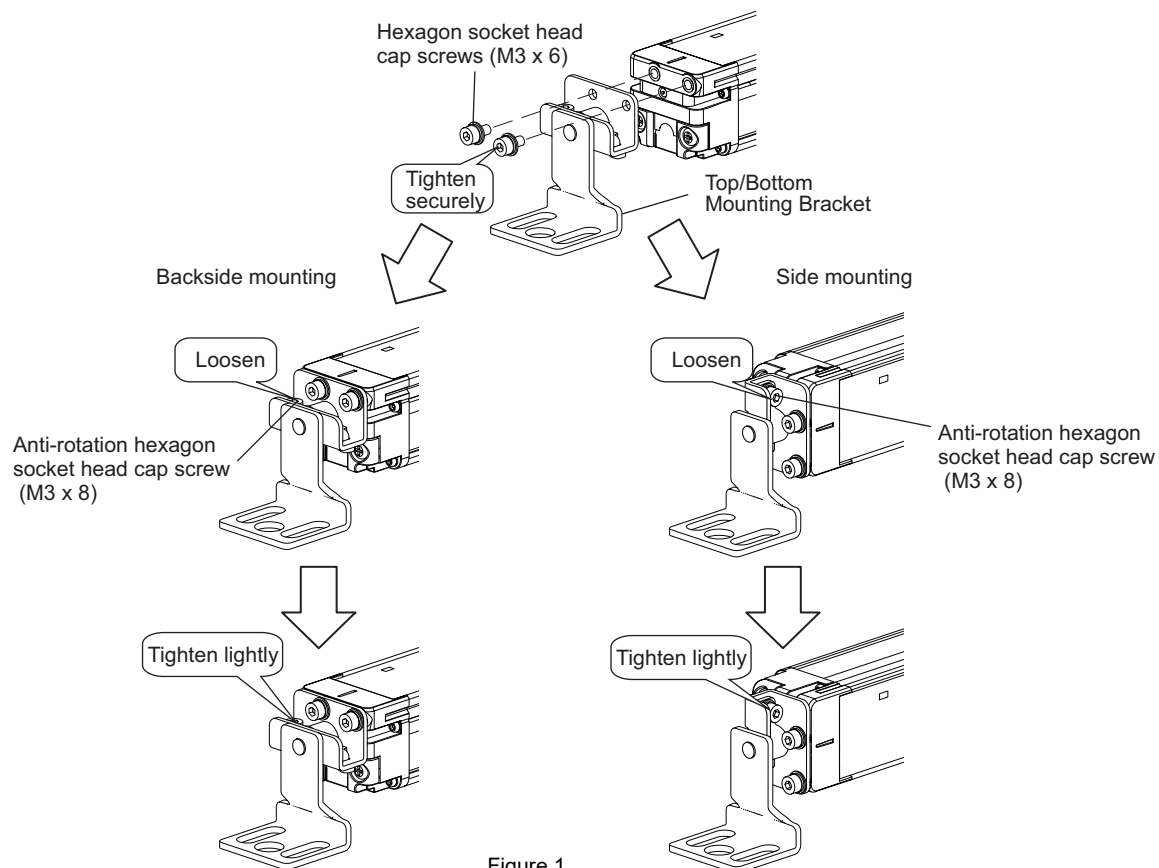

Figure 1
1. Attach Top/Bottom Brackets and tighten them using the included hexagon socket head cap screws (M3 x 6). Tighten the hexagon socket head cap screws (M3 x 6) with the torque at 0.54 N·m (recommended). (Figure 1)